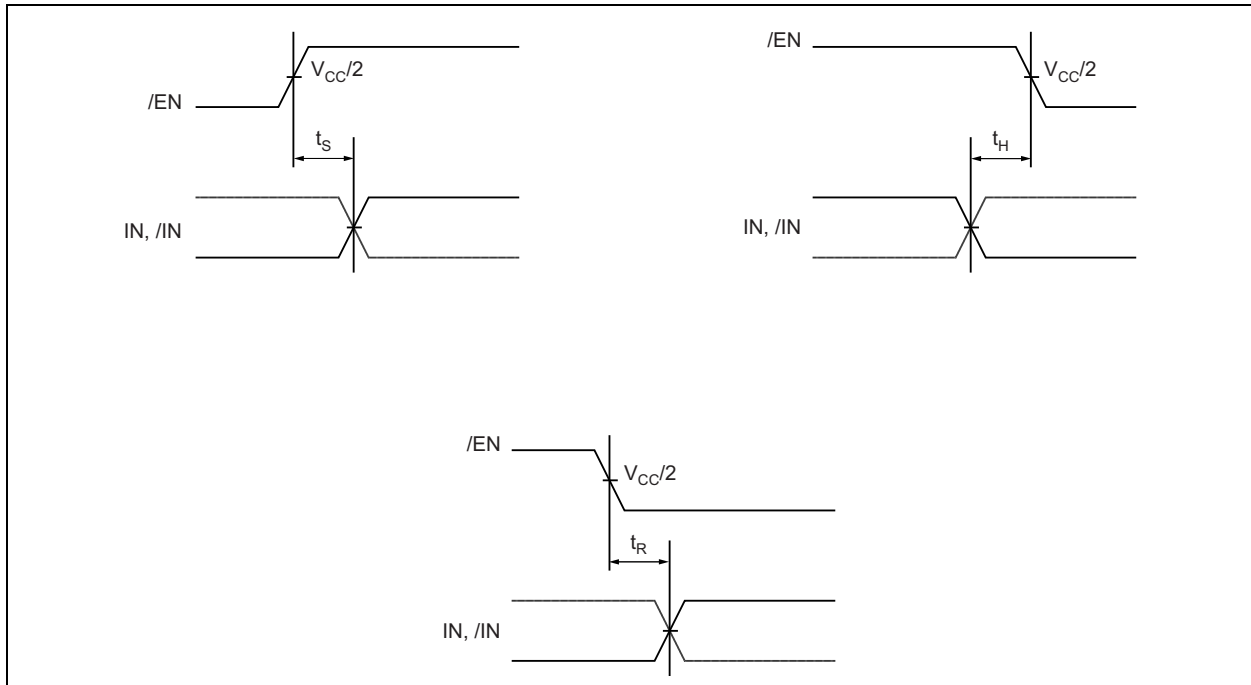

FIGURE 4-3: Setup, Hold, and Release Time: IN and $/\text{EN}$.
- 4:** This setup time is the minimum time that /EN must be asserted prior to the next transition of IN / /IN to prevent an output response greater than ± 75 mV to that IN or /IN transition. See Figure 4-3.
- 6:** This hold time is the minimum time that /EN must remain asserted after a negative going transition of IN to prevent an output response greater than ± 75 mV to the IN transition. See Figure 4-3.
- 7:** This release time is the minimum time that /EN must be de-asserted prior to the next IN / /IN transition to affect the propagation delay of IN to Q less than 1 ps. See Figure 4-3.